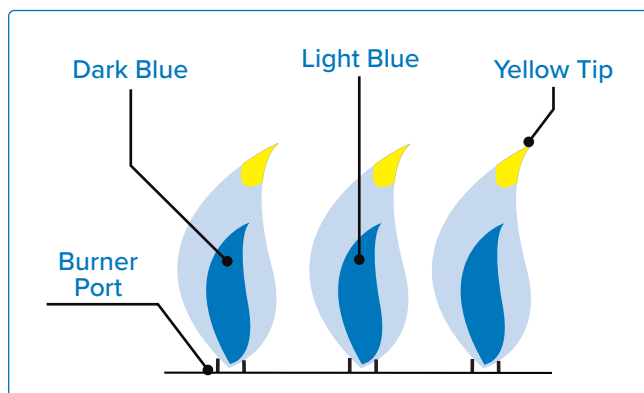

Fig. 27
- Too little air will cause yellow, sooty, lazy flames (**Fig 27**).